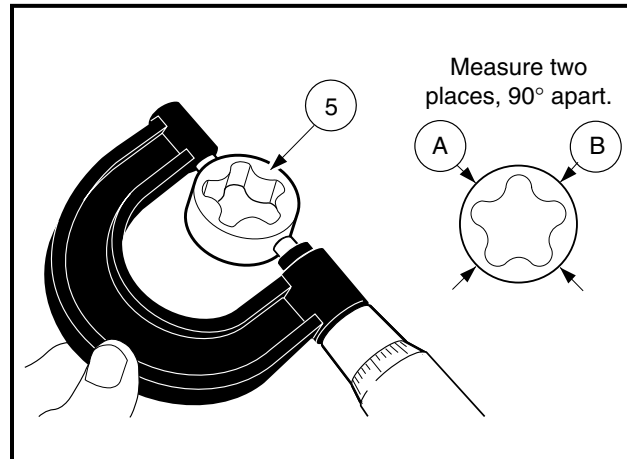

Figure 18-60 Measure O.D. of Outer Rotor
- 4.2. Use a micrometer to measure the diameter of the outer rotor at several points (**Figure 18-60, Page 18-30**).